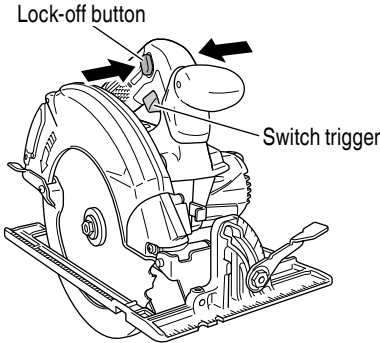

Fig. 24
3. Operation of switch (Fig. 24)